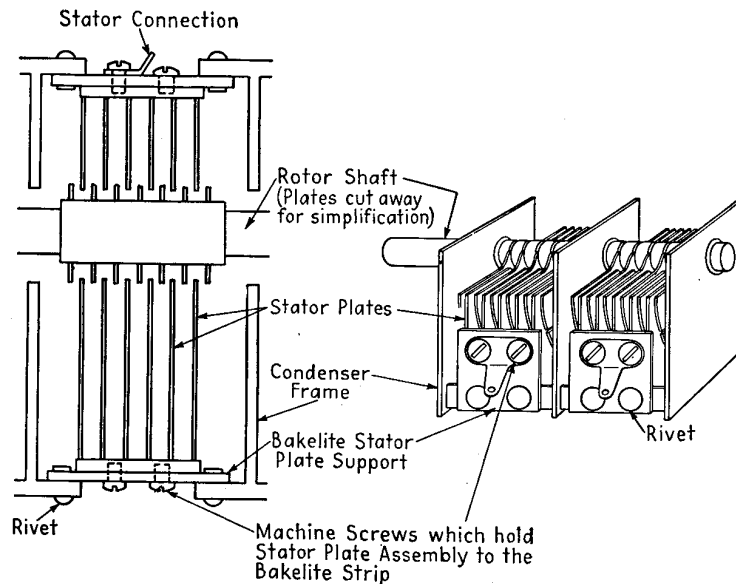
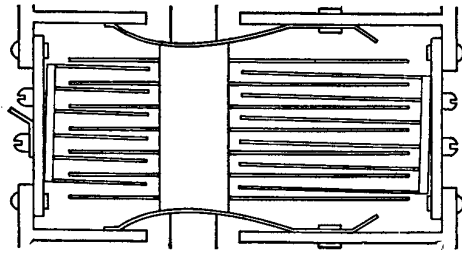

FIG. 14-18.—Method of fastening stator plates in a variable condenser.
FIG. 14-19.—Stator plates out of parallel alignment because of loosened holding screws.
2. *Tighten and align the stator plates.* Examine the insulators that hold the stator plates in position. Figure 14-18 shows a common method of supporting the stator plates. Most condensers have a similar arrangement. The machine screws that hold the assembly together may loosen, making for poor contact with the stator soldering lug and also allowing the stator plates to slip out of parallel alignment. Figure 14-19 represents a condenser where this has happened. To repair this condition, pry the stator plates back into parallel alignment with the rotor plates, making sure at the same time of equal spacing between the plates, and then tighten the screws. Even if the plates have not slipped out of position, the